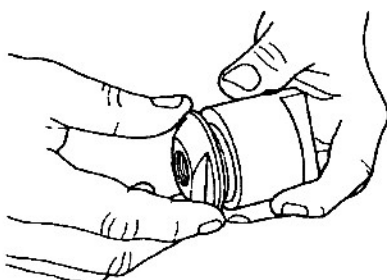

Fig. 41
51. Remove the arbor nut (202) by turning it counter-clockwise, as shown in Fig. 41.